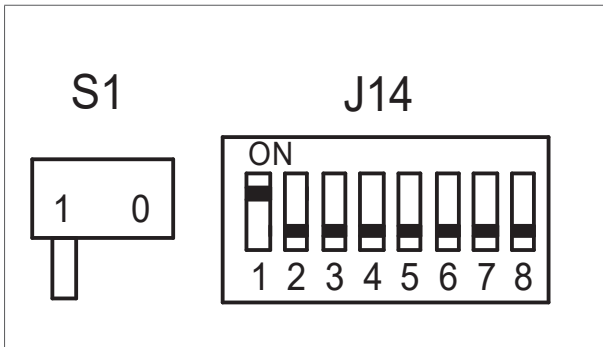

Figure 5 - Positions of the S1 and J14 switches
2. Set the S1 and J14 switches on the control unit as follows (figure 5/6):